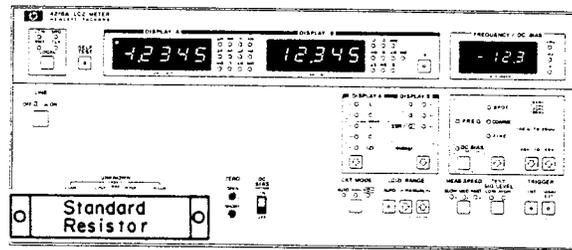

Figure 4-5. Impedance Accuracy Test Setup.
3. Connect the 0.1Ω standard resistor directly to UNKNOWN terminals as shown in Figure 4-5 and set test frequency to 100Hz, 120Hz, 1kHz and 10kHz. Verify that the impedance and phase angle readings on the 4276A are within the test limits given in Table 4-5.